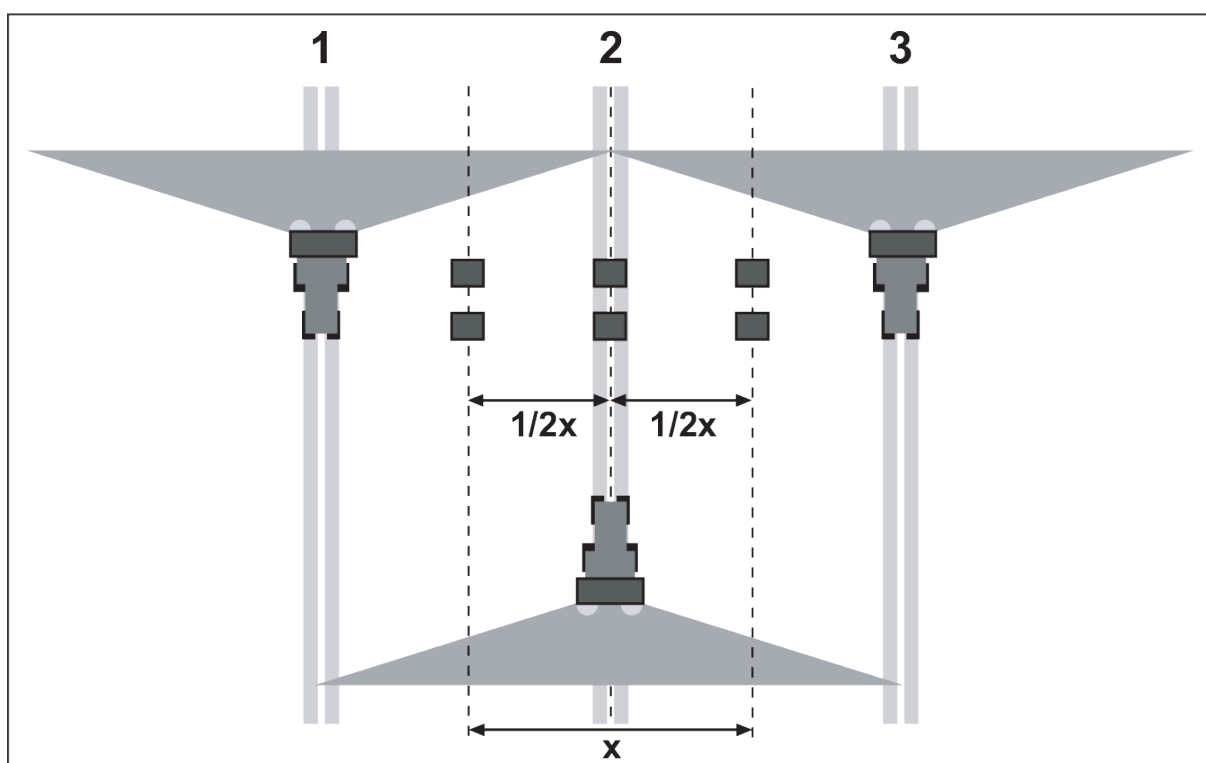

Fig. 54: Layout for three passages
- ▶ Place two collecting vessels one in front of another at a distance of **1 m** in the overlap zones (between the tracks) and in the track (according to Fig. 54)